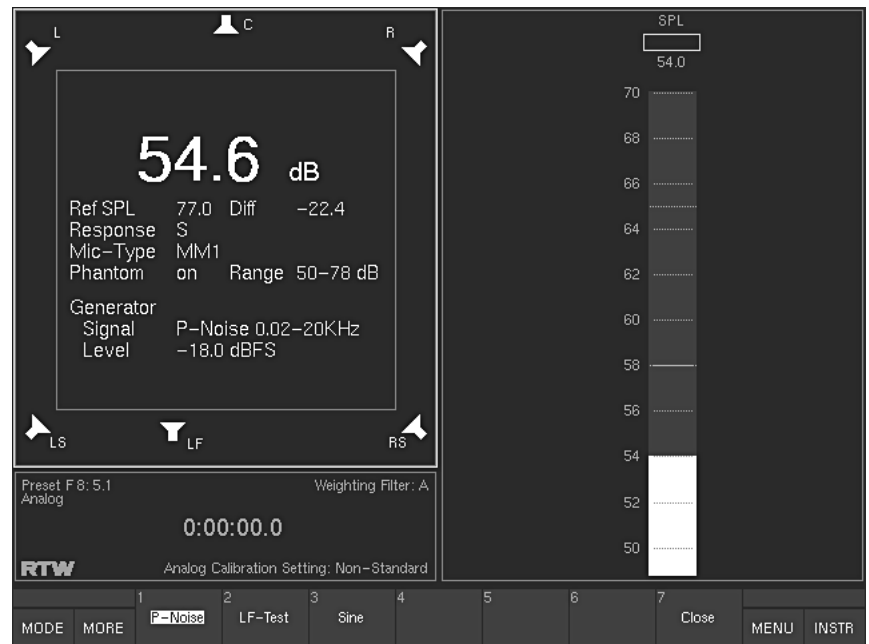

Fig. 5-28: Screen display after selecting the Signal Select function of the CAL instrument
(Button/key 1, see Fig. 5-28)
(Button/key 2, see Fig. 5-28)
(Button/key 3, see Fig. 5-28)